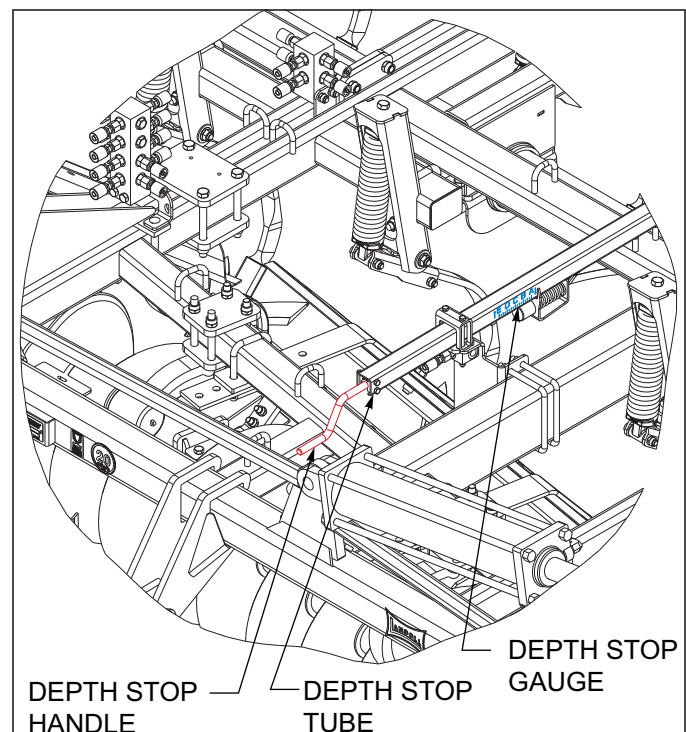

Figure 4-6: Depth Stop Adjustment
1. The operating depth of the Tilloll is controlled by a single-point depth stop. The stop is located at the center front of the machine ***See Figure 4-6***.